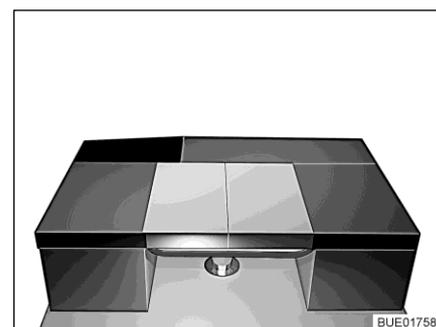

Fig. 167 After conversion
- Place the back cushion of the lateral bench longitudinally on the table (see Fig. 167).